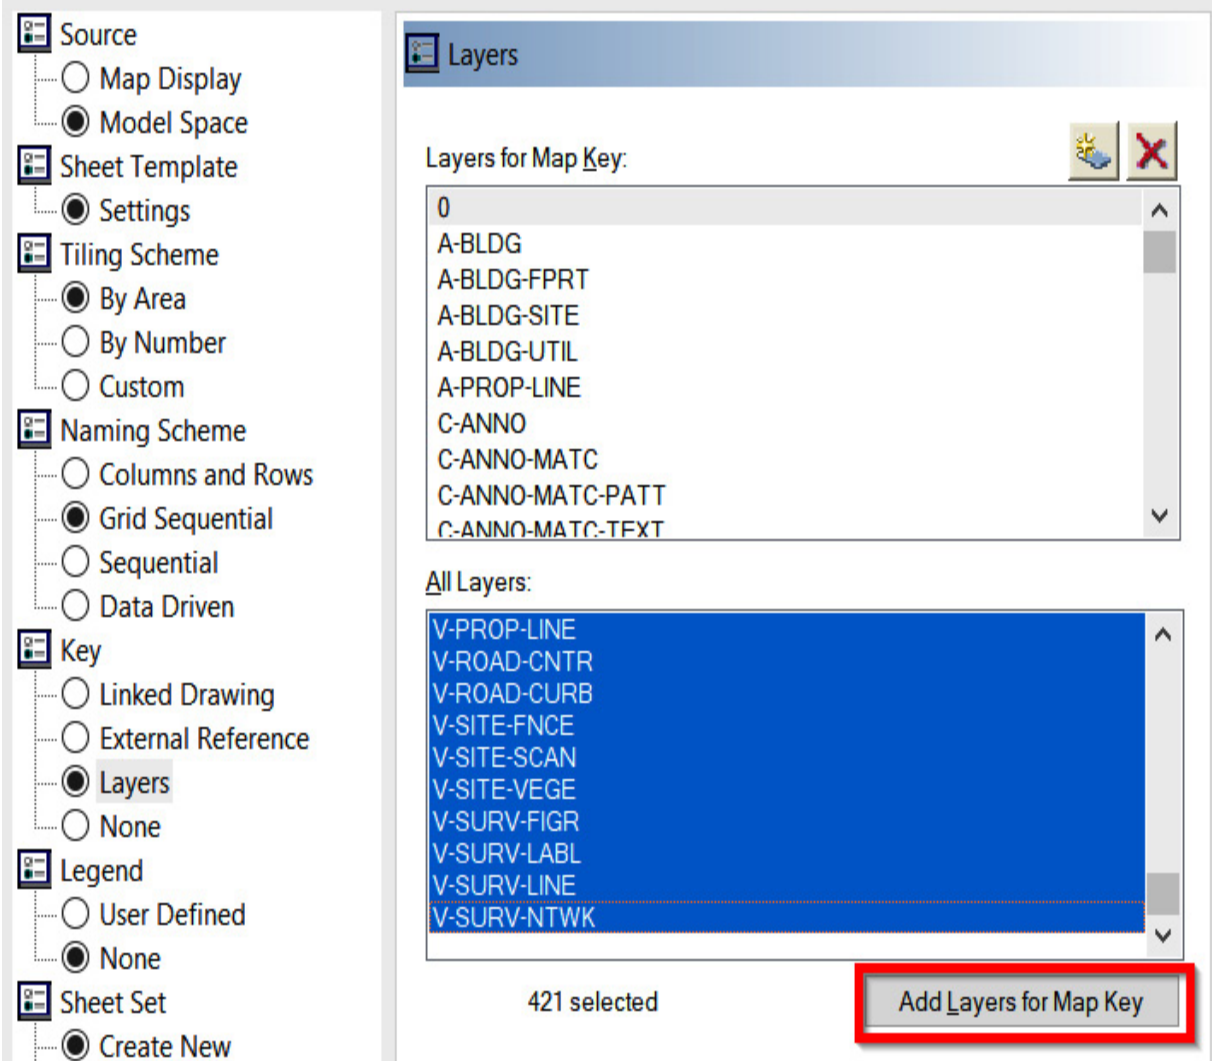

Figure 14.10 – Map Book > Key > Layers Criteria
- **Key: Layers** (as shown in *Figure 14.10*). Select **All Layers** (easiest to use by pressing *Shift*) and click on the **Add Layers for Map Key** button.